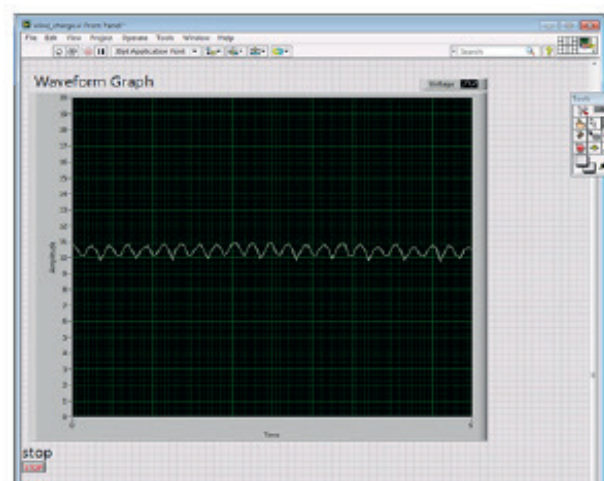

Figure-2
- 5) By using the LabView software, add a waveform graph to the front panel as shown in Figure-2. Set the time Time-scale at 0.1 seconds.